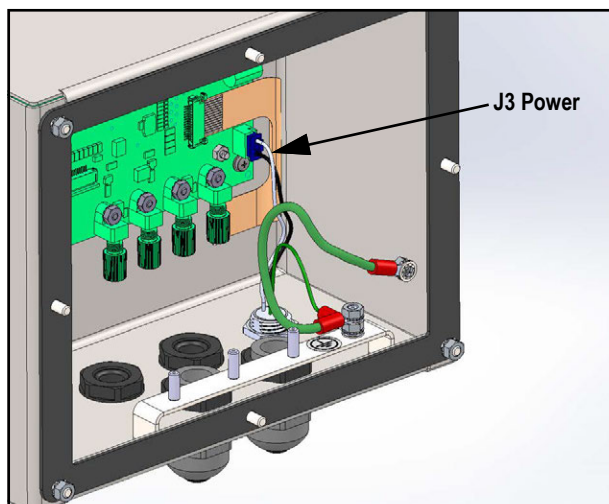

Figure 2-11. Connect DC Wiring
NOTE: The DC power cable should be attached to connector J4 (Figure 2-11 on page 25).
- Run the other two wires up the side of the indicator and connect the three pin plug (PN 15888) to the power supply board as shown in Figure 2-11 and Table 2-6 on page 24.